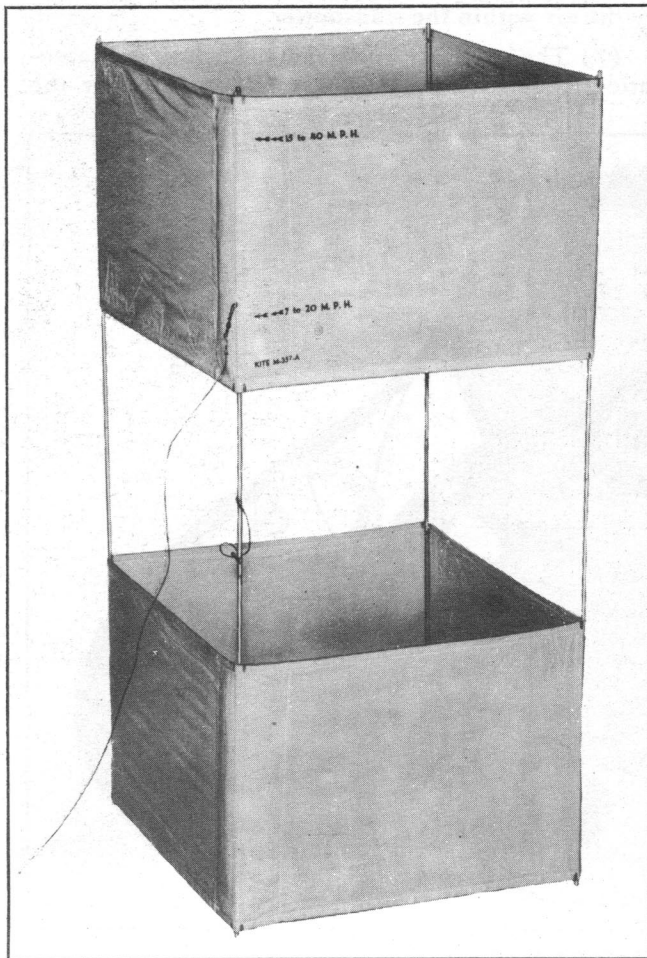

Figure 1-3. Kite M-357-A
(8) A wrench is attached to the belt for use in removing the crank socket cap and ground cap, and in turning the antenna brake handle.
(9) Two indicator windows are provided at the top of the cabinet toward the front. One, marked "SPEED INDICATOR KEEP LIGHTED," is lit when the crank is turned at the proper speed of 80 revolutions per minute, or faster. The other indicator window is marked "RADIO OUTPUT" and is lit when the transmitter is on the air, flickering with the keying.
(10) Complete instructions for the use of the radio transmitter are given by extensive lettering on the top of the cabinet, along with markings on the control panel, door, ground cap, and antenna.
b. KITE M-357-A.—This collapsible box kite (see fig. 1-3) measures 17 x 17 x 36 inches when assembled, and is used to raise the antenna when a wind is blowing. Complete instructions for its assembly and